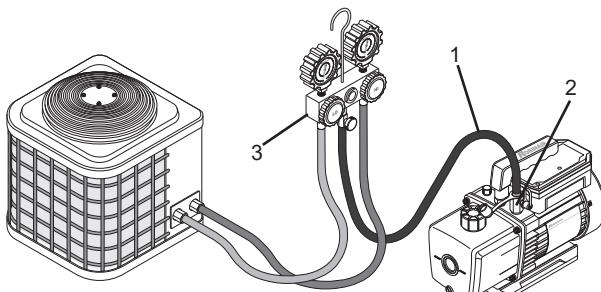

Figure 6
3. Connect a refrigeration service hose (1) to vacuum pump inlet (2) and the manifold gauge set (3) (see *Figure 6*).
4. Connect high-side and low-side service hoses to the respective service ports of the A/C-R system (see *Figure 6*).
1. Close manifold valve(s) between the pump and the system (see *Figure 6*).
2. Remove hose from pump inlet (2) (see *Figure 6*).
4. Cap the inlet port to prevent any contamination or loose particles from entering the port (2) (see *Figure 6*).